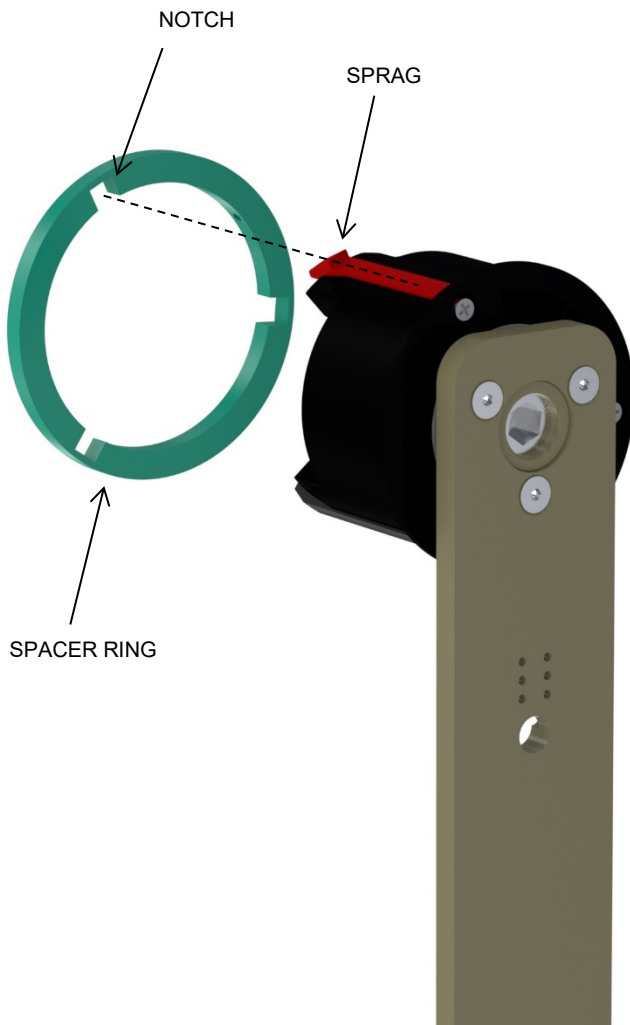

Figure 7-10
1. Position the Spacer Ring in front of the mandrel hub in a way that the notches of the Spacer Ring will align with the Sprags on the mandrel hub as shown in **Figure 7-10**.